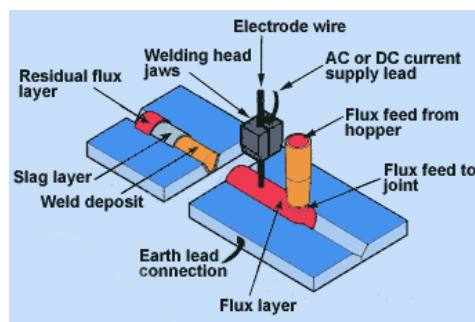

Figure 18 Filler material strengthens the joint in arc welding
- 1 – ***Arc welding*** – An electric arc is maintained between an electrode and the workpiece. The arc generates immense heat causing the metal to melt. In some cases, the electrode provides the filler metal. Figure 18 shows the filler (flux) being added to a workpiece undergoing electric arc welding.